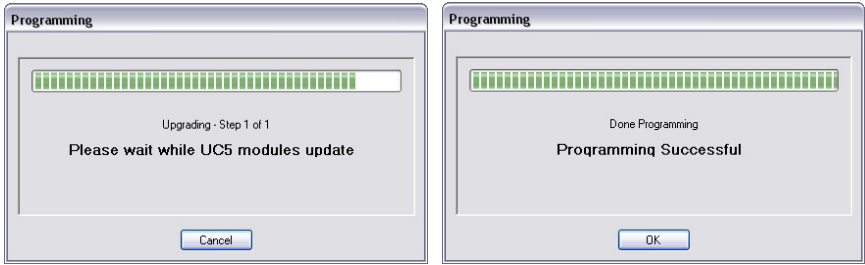

Figure 23: Toolsuite UC5 Programming Progress Window
6. A *Programming* window will appear (Figure 23) showing the programming progress. This may take several minutes.